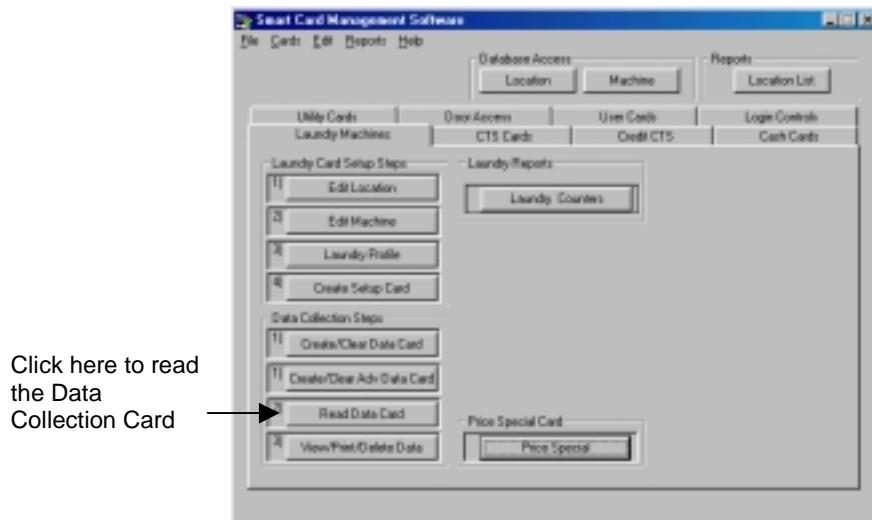

Figure 8.34 Reading a Laundry Machine Data Collection Card
2. In the Laundry Machines tab, click the Read Data Card button (Figure 8.34).